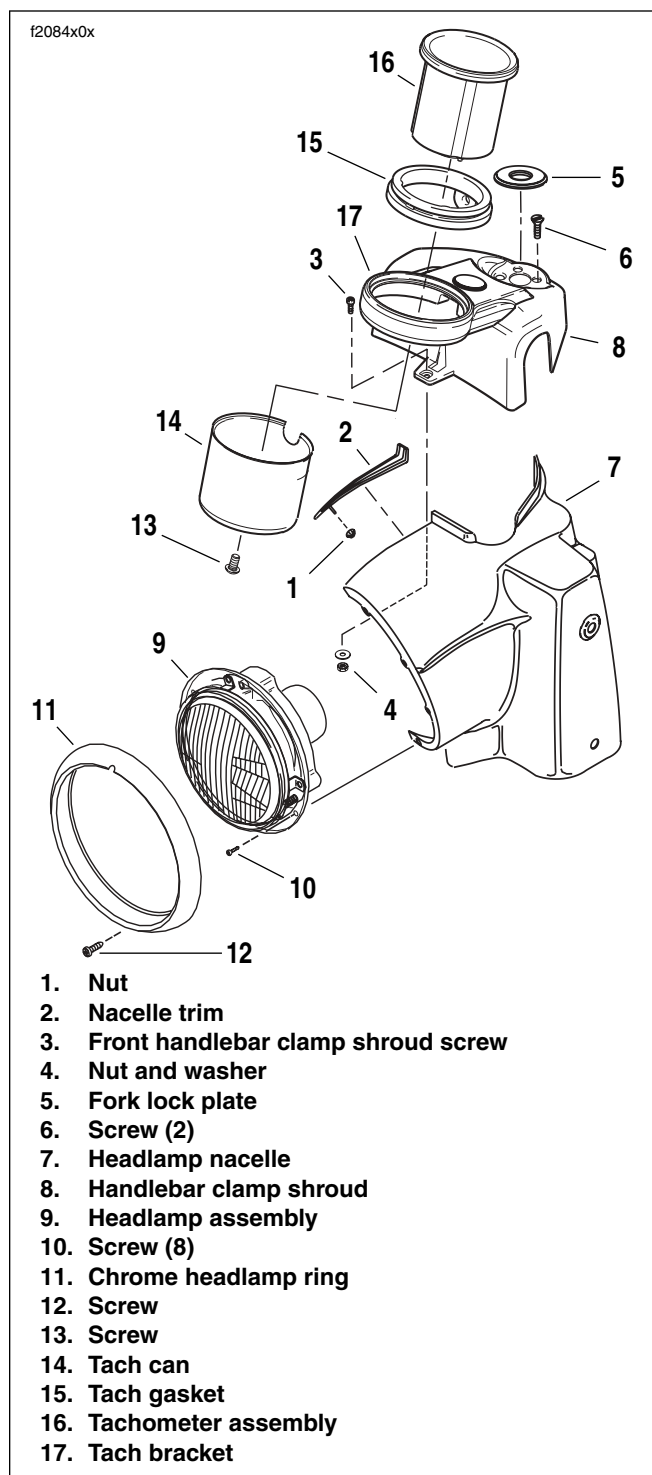

Figure 6. Headlamp Nacelle Components
4. See Figure 6. Remove screw (12) and chrome ring (11) from headlamp nacelle (7).
5. Remove eight screws (10) and headlamp assembly (9) from headlamp nacelle. Squeeze two external tabs to remove wire connector at back of headlamp bulb.
6. Loosen tach can screw (13) several turns. Push up on screw to dislodge tachometer assembly (16) from tach gasket (15). Remove screw and tach can.
18. See Figure 6. Reinstall handlebar clamp shroud (8). Tighten acorn nuts securing nacelle halves to fork studs to 72-108 **in-lbs** (8.1-12.2 Nm).
19. Install two screws (6) to handlebar clamp shroud and tighten to 10-20 **in-lbs** (1.1-2.3 Nm). Gently press fork lock plate (5) into place on handlebar clamp shroud.
20. Tighten front handlebar clamp shroud nut (4) to 10-20 **in-lbs** (1.1-2.3 Nm).
21. Install nacelle trim (2). Install nut (1) (inside nacelle) securing nacelle trim. Tighten to 15-20 **in-lbs** (1.7-2.3 Nm).
22. Slide tachometer assembly (16) into tach gasket (15) in tach bracket (17).
23. Install tach can (14) and secure with screw (13).